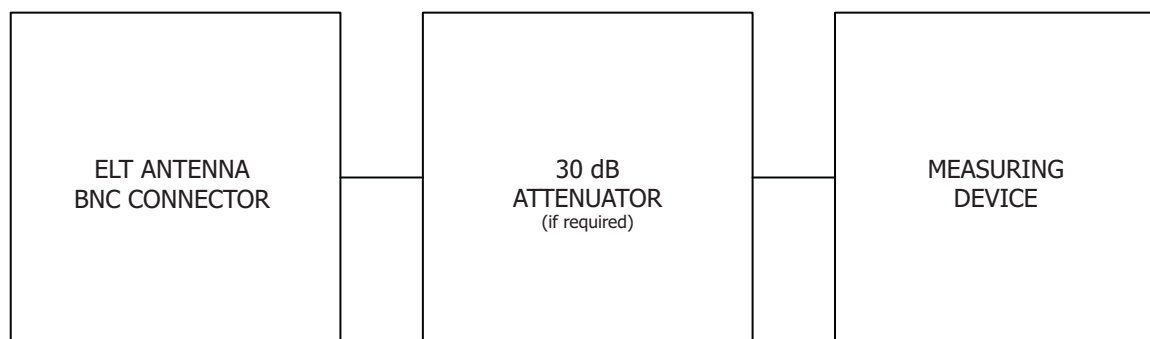

Figure 9. Performance Tests Equipment Setup
- (1) Place the ELT in a container or screen room capable of substantially attenuating RF signals, or the transmitter power output shall be connected to a suitable dummy load to minimize radiation.
- (2) Use the ELT's own battery pack as the power source for these measurements. An alternate power source can be used where lengthy servicing, other than the performance tests, is anticipated.
- (3) Ensure that adequate attenuation rated for 406 MHz is installed between the ELT antenna output and the measurement equipment to prevent damaging input circuitry, if required. At a minimum, the attenuator should be rated at 30 dB, and 5 watts for a 1/2-second duration. As shown in "Figure 9. Performance Tests Equipment Setup".